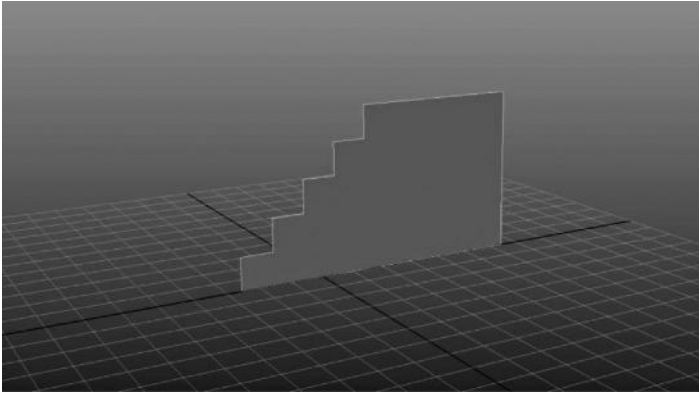
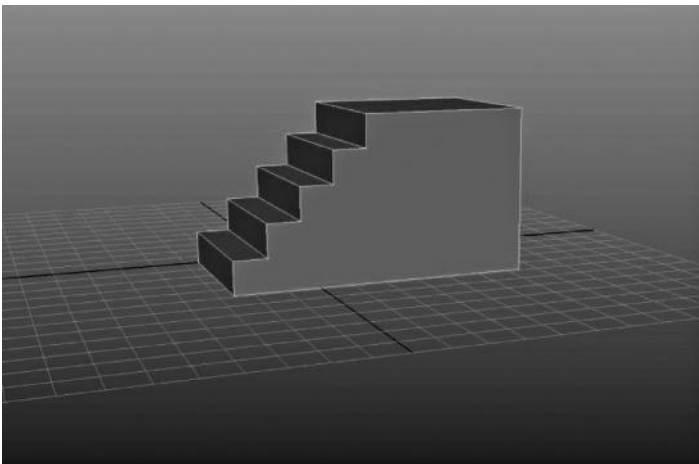
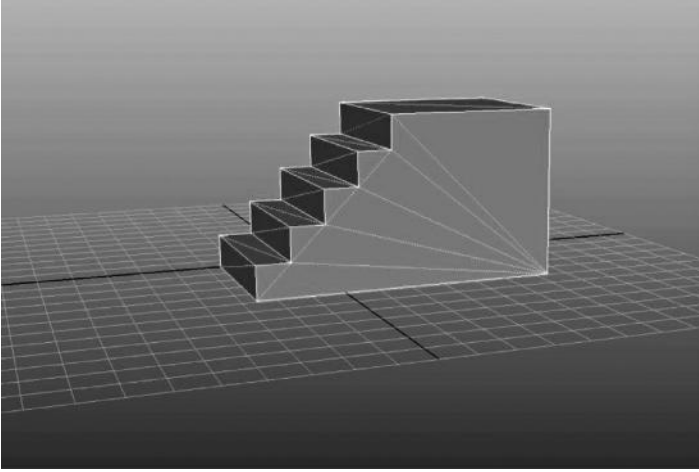

FIGURE 2.17 The shape of a staircase, drawn point by point.
FIGURE 2.18 The staircase is made 3 dimensional by using the extrude action.
FIGURE 2.19 The triangles on the staircase being displayed. All objects are always broken down into triangles automatically.
**Point-to-point creation** is another way to create your initial polygonal model. Point-to-point creation isn't nearly as quick or easy as creating primitives and editing them, but it is useful in various places. The point-to-point operation leaves a vertex every place you click the mouse, connecting the current vertex to the previous vertex with an edge and filling in the space between the first three points with a triangle. Each subsequent point clicked will create another triangle, which will be filled in until completed. In Figure 2.17, I have created a point-to-point outline of a staircase.
Most software programs will end up creating this polygon as a multi-sided face and not triangulating it, like Figure 2.18. However, in reality, it will look like Figure 2.19 to the software handling the geometry. The triangles are simply hidden from your view. Notice how uneven the division of triangle is? Oftentimes it is far better to have an even distribution of triangles, even if it means adding more. When modeling polygonal geometry, we strive to have even distribution of polygons as well as economy
Extrusions also let you take simple shapes, such as our 2D staircase in Figure 2.17, and pull them out to 3D shells, such as in Figure 2.18. This is the best way to make simple 3D objects with non-uniform shapes (like those stairs).